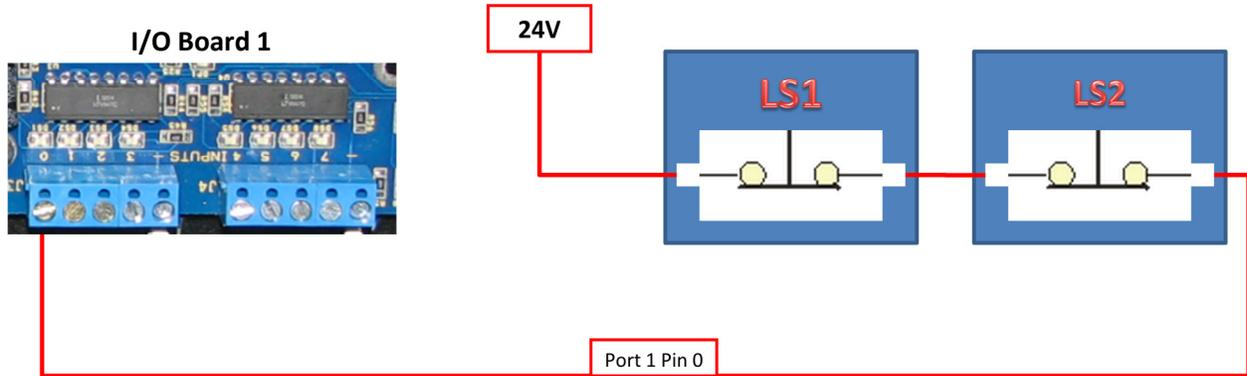

Figure 76 Limit Switches in Series
2. Wire the two switches together in series as shown in Figure 76. Make sure to wire the switches using their normally closed contacts.
9. Setup the active state. Under the active low column you can change the active state by clicking on the “X” or check mark. For normally open, the green check mark should be used. Accordingly, for normally closed switches, the red “X” should be selected. If your limits are wired as shown in Figure 76 then this column should have the red “X”.